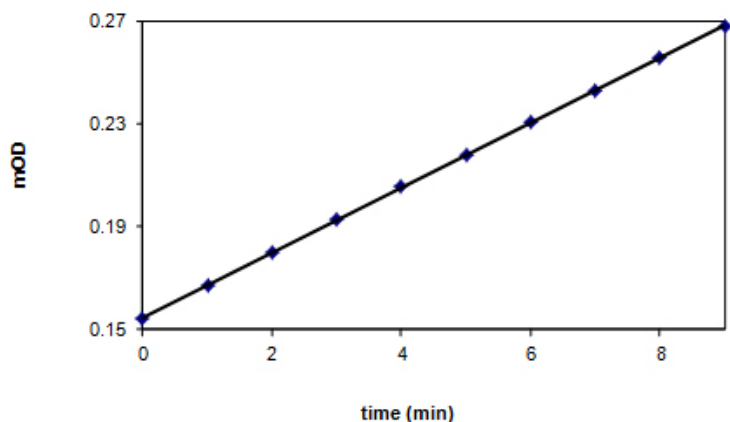

Figure 1. Plot of OD vs. time. Slope= $V=1.185\text{E-}02$ OD/min
1. Plot data as OD versus time for each sample (see Fig. 1).